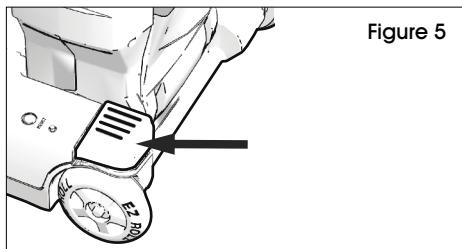

Figure 5
- With the tip of the foot, press down on the left portion of the handle release located at the left rear side of the cleaner. Move the handle and adjust it to the desired height. The unit can lay completely flat for cleaning under low furniture. (See Figure 5)